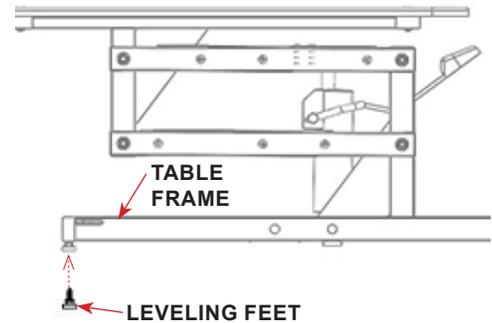

FIGURE 2.2 - Adjustable Leveling Feet
- STEP 2:** Thread the leveling screws (feet) into the bottom of the frame. Leave 1/2" of screw threading exposed. See FIGURE 2.2